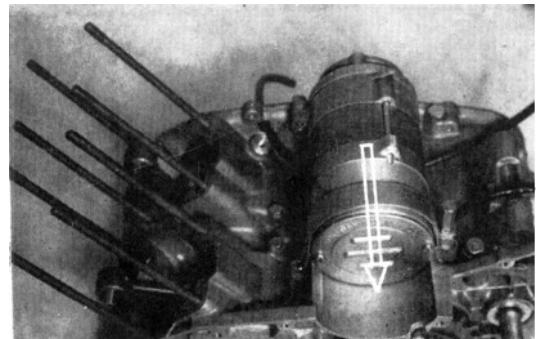

Fig. 26 Removing AC generator
14. Remove screw (5×30) of AC Dynamo and hexagonal nut of set band. Then, remove AC generator by pulling it out in direction A. (Fig. 26)